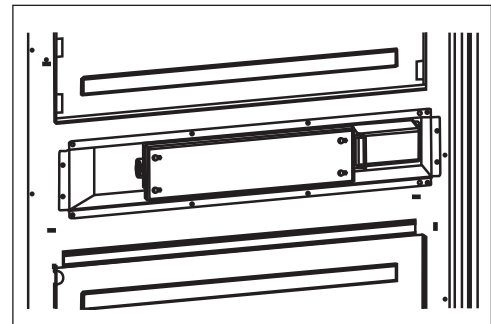

Figure 28: Power Entrance Box
4. Loosen the four screws that secure the power entrance cover and lift it off of the power entrance. Refer to **Figure 28**.